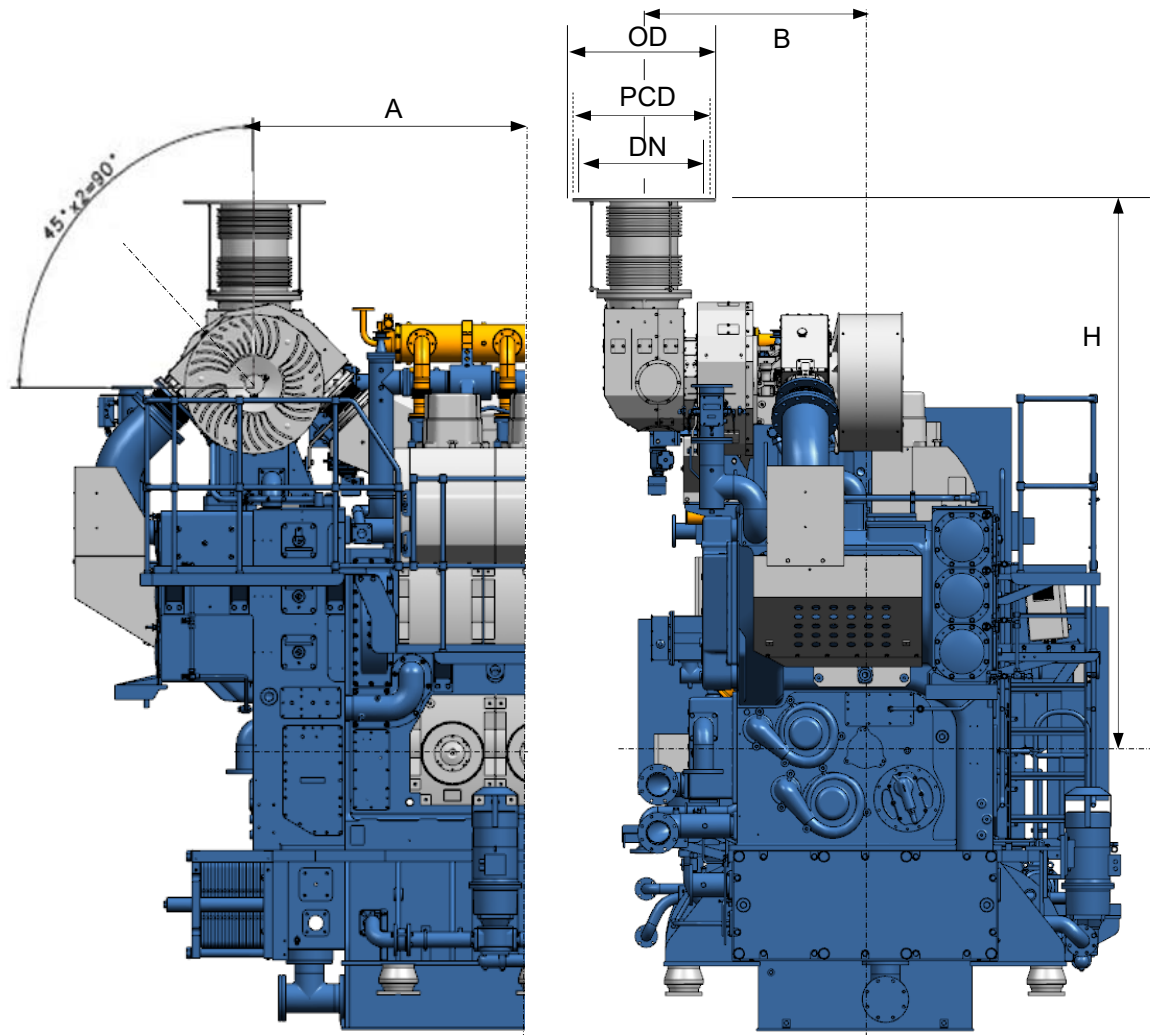

Figure 9.4 External exhaust gas pipe connection.
1) See "Figure 9.4 External exhaust gas pipe connection".